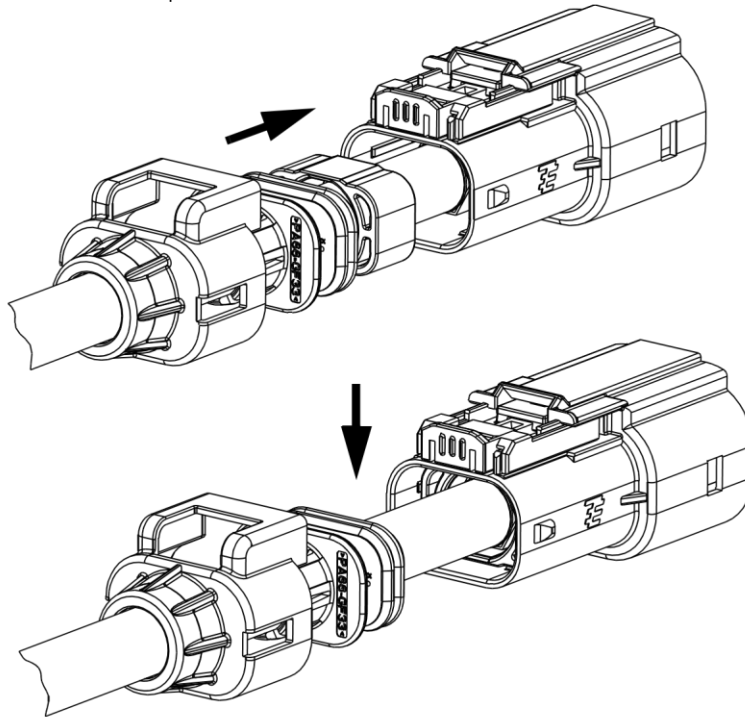

Figure 16
- 3.6.13.** Slide the spacer forward on the cable and into the cable exit end of the connector assembly until it stops against the inside of the connector outer housing as shown in Figure 16.